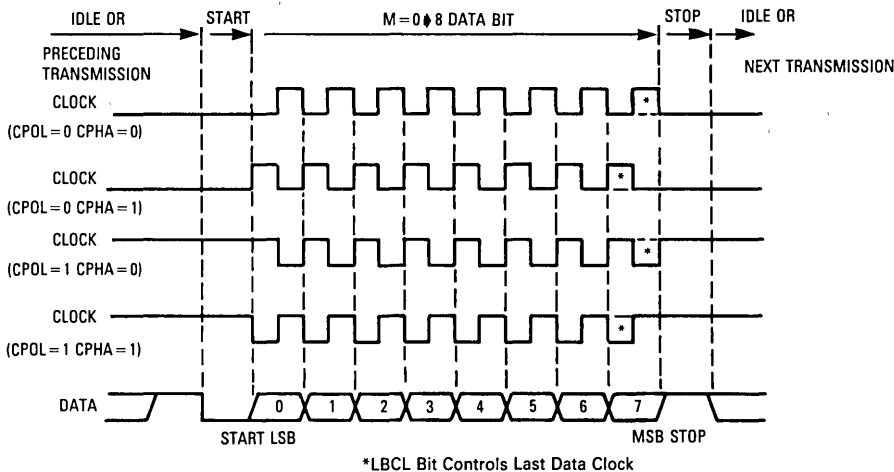

Figure 17. SCI Data Clock Timing Diagram (M=0)
- 0 = SCLK line activated in the middle of the data bit (see Figures 17 and 18)